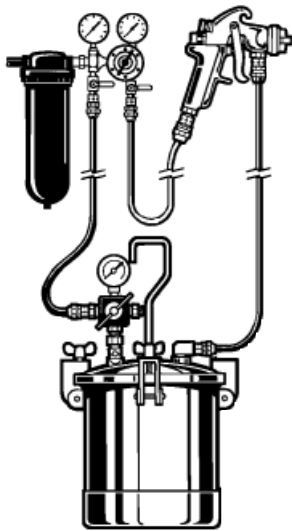

Figure 4 - Typical Pressure Feed Gun with remote pot
Figure 4 shows a material container some distance away from its pressure feed gun.
*Pressure Feed*...the material is fed by positive pressure as in Figure 4.